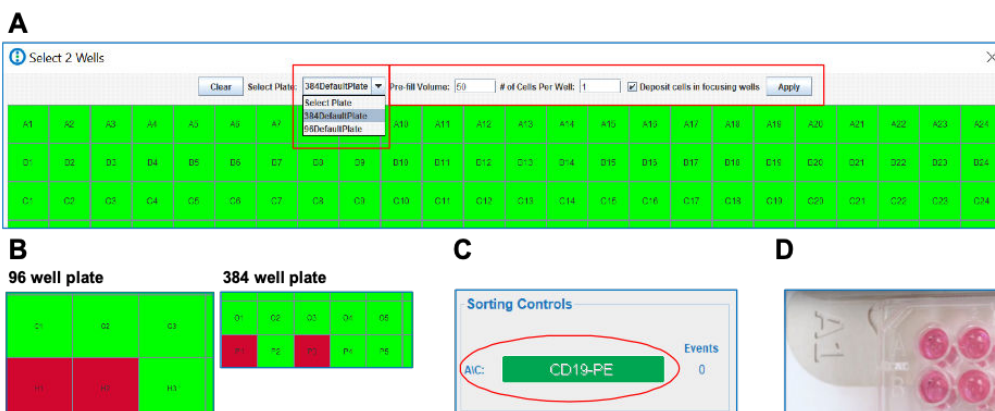

Figure 62. Steps in the single-cell sorting process.
3. Select the plate type from the dropdown menu. 96- and 384-flat bottom plates are default for sorting (Fig. 62 A).
6. Cells can be deposited in the last two wells for focusing purposes if a plate imager is used downstream. Select the “Deposit cells in focusing wells” checkbox to use this function. The cells will be deposited in wells H1 and H2 in a 96-well plate, and P1 and P3 in a 384-well plate (Fig. 62 B).
10. Select the gate for sorting in the Sorting Controls Panel. Remember that the N1 performs only 1-way sorting (Fig. 62 C).
12. Load plate in the module positioning the A1 well by the A1 symbol engraved on the module. Push the plate all the way down until it feels seated and secured (Fig. 62 D).